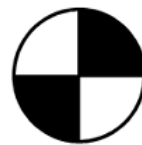

Figure 2.1 – Center of Gravity Symbol
2. All aircraft must have the fuselage clearly marked on both sides with a classic CG symbol (Figure 2.1) that is a minimum of 0.5 inches in diameter centered at the Empty CG position, per the submitted 2D drawings. (Wing type aircraft may place the two CG markings on the bottom of the wing.)